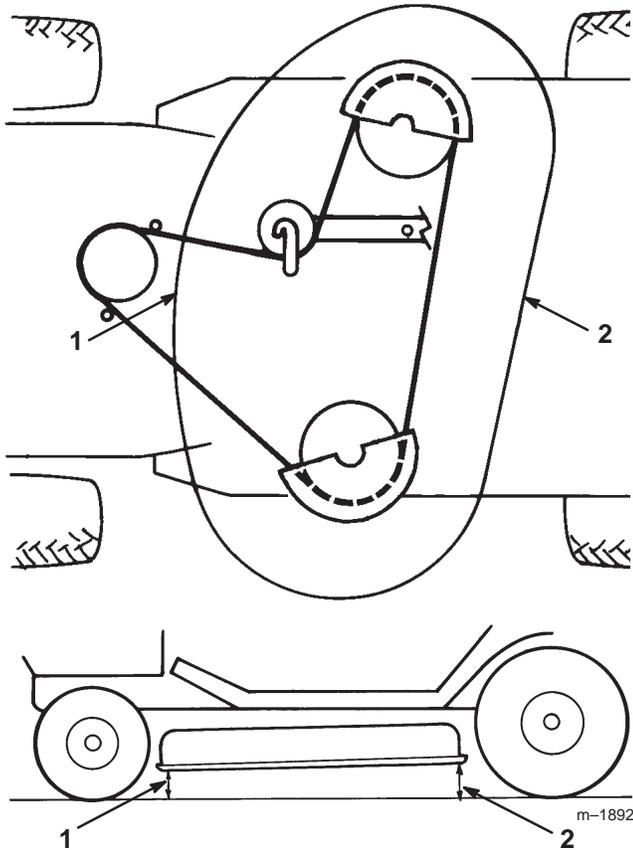

Figure 51
6. Check the front to rear slope by measuring between the bottom of the mower (front center and rear center) and the flat surface (Fig. 51). If the front is not within a range of $1/8''$ – $3/8''$ (3.5mm–10.5mm) lower than the rear, an adjustment is required.
9. After adjusting both eyebolt lock nuts evenly, check the front-to-rear slope again. Continue adjusting eyebolts until the front blade tip is 0-3/8" (0-9.2 mm) lower than the rear blade tip (Fig. 51).